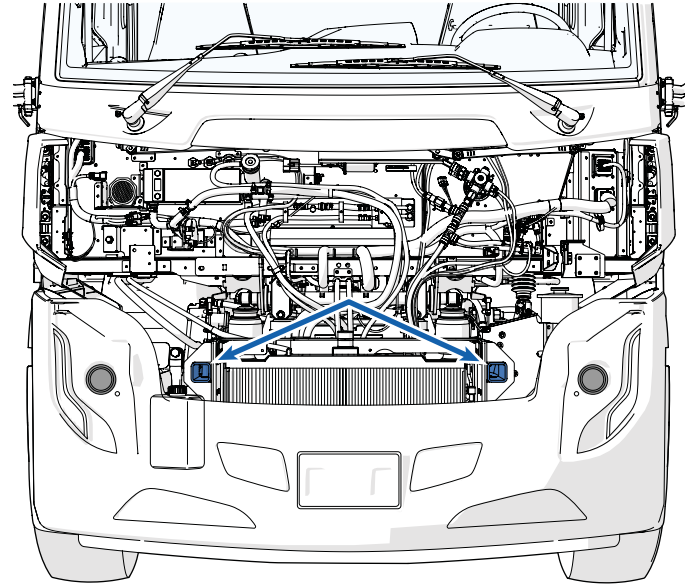

Figure 2 - Tow hook receptacles
- Locate the two receptacles at the end of the chassis rails, on each side of the radiator (**Figure 2**).